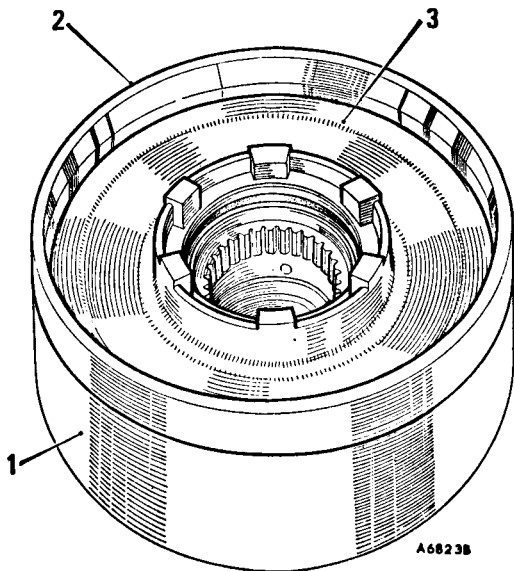

Fig. Fa.58
10. Refit the reverse gear booster piston with the boss facing outwards, using Service tool 18G 1103 (see Fig. Fa.58).